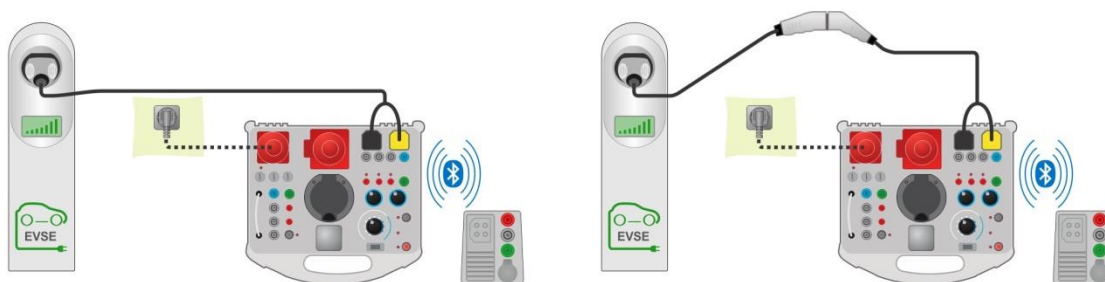
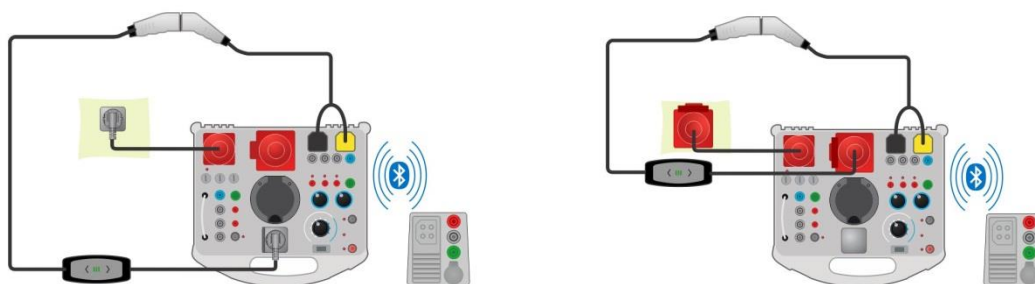
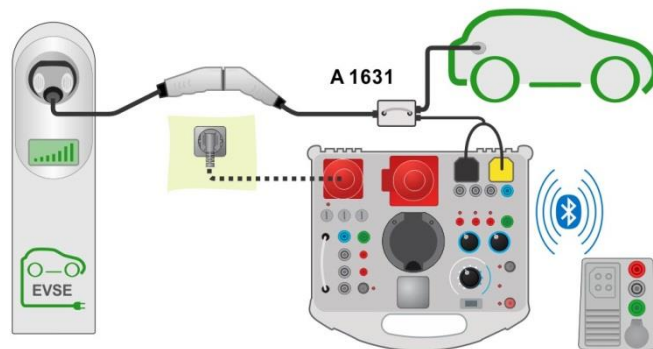

Figure 7.85: Diagnostic test - EV simulator and Errors sub-tests - connection to EVSE
Figure 7.86: Diagnostic test - EV simulator and Errors sub-tests - connection to Mode 2 charging cable powered from Analyser
Figure 7.87: Diagnostic test (EVSE) - Monitor sub-test - connection to EVSE or charging cable
- › Connect the charging cable / station to A 1632 eMobility Analyzer adapter. See **Figure 7.85, Figure 7.86 and Figure 7.87**. Refer to **A 1632 eMobility Analyzer Instruction manual** for detailed information.